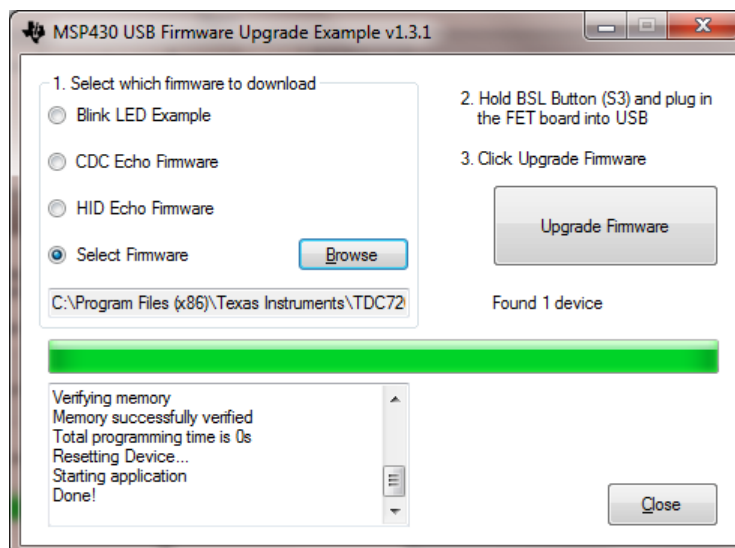

Figure 2. Upgrading MSP430 Firmware
6. On the MSP430 LaunchPad board, press the **BSL button (S5)** and **connect the MSP430 Launch Pad to your PC** using a **USB cable**. If detected, the text displayed on the Firmware Upgrade tool changes from **No device connected** to **Found 1 device**. See Figure 2.